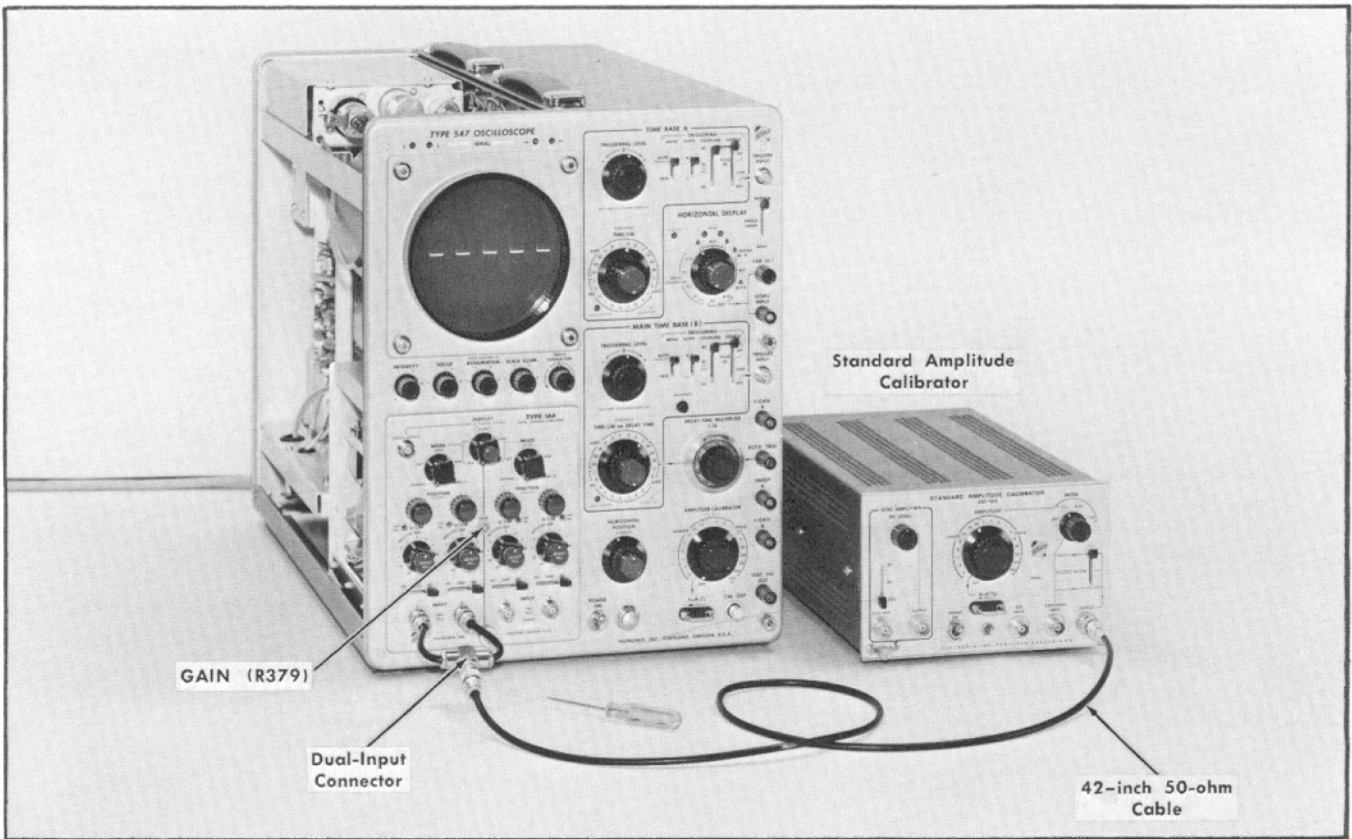

Fig. 7-15. Test equipment setup for steps 9 through 14.
9. Adjust GAIN R379 ①
a. Equipment setup and the location of the GAIN adjustment are shown in Fig. 7-15. Connections made at completion of step 9c are also shown.
b. Set the Standard Amplitude Calibrator (item 5) for a 50 mV square-wave output. Front-panel control settings are given in the list that precedes step 9.
c. Connect the Standard Amplitude Calibrator output connector through a 42-inch 50 ohm cable and a dual-input connector (item 8) to the Type 1A4 Channel 1 and 2 Input connectors.
e. Rotate the GAIN control (R379, see Fig. 7-15) fully clockwise and note the amplitude.
10. Adjust Preamplifier Gain R77 ①
a. Test equipment setup and connections are the same as shown in Fig. 7-15.
a. Test equipment used in this setup is the same as shown in Fig. 7-15. Set the oscilloscope in the upright position.